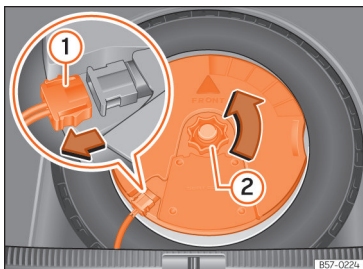

Fig. 183 In the boot: remove the subwoofer.
- Disconnect the subwoofer's speaker cable >>> Fig. 183 ①.
- Turn the securing wheel anti-clockwise >>> Fig. 183 ②.